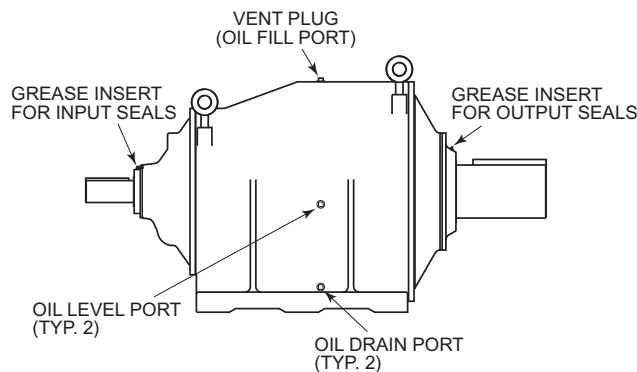

Figure 5.1 Reducer Oil Ports, Vent Plug and Grease Insert Locations
3. Remove oil fill plug (vent plug) and one of the two oil level plugs; reference Figure 5.1.
2. Remove oil fill plug (vent plug) for ventilation (reference Figure 5.1).
1. Clean grease inserts, reference Figure 5.1 for location.